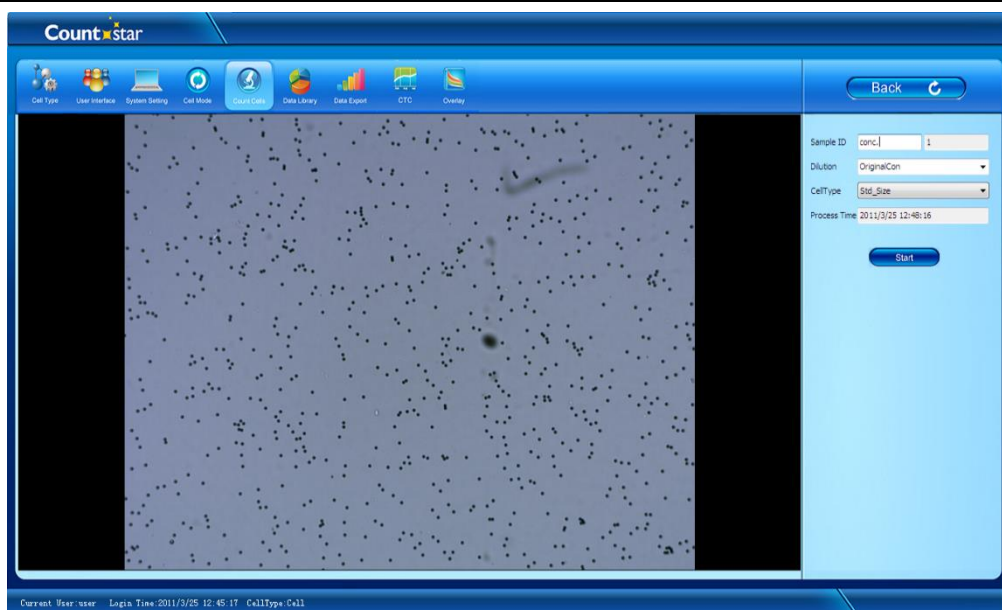

Figure 4 Countstar® Count Cell menu's window
4. Click on the **Count Cell** icon (Figure 4) and type in an appropriate Sample ID. The correct dilution factor has to be selected according to the final sample dilution ratio prior to the analysis in the Countstar®.